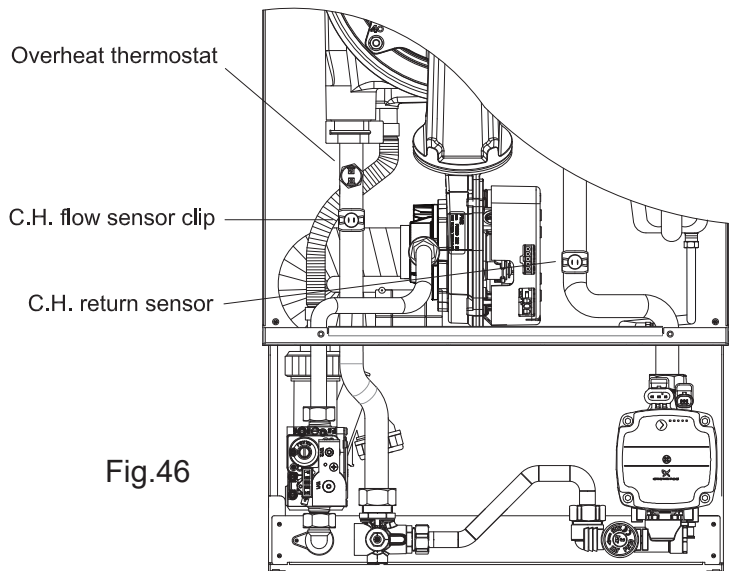

Fig.46
8.19 TO REMOVE/REPLACE C.H. FLOW AND RETURN SENSORS (Fig. 46)